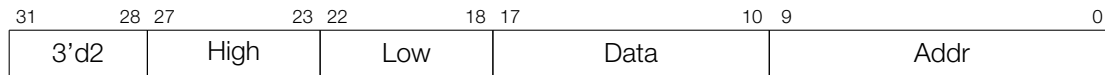

Figure 157: Instruction Type – REG\_WR
**Operand**    **Description** - see Figure 157